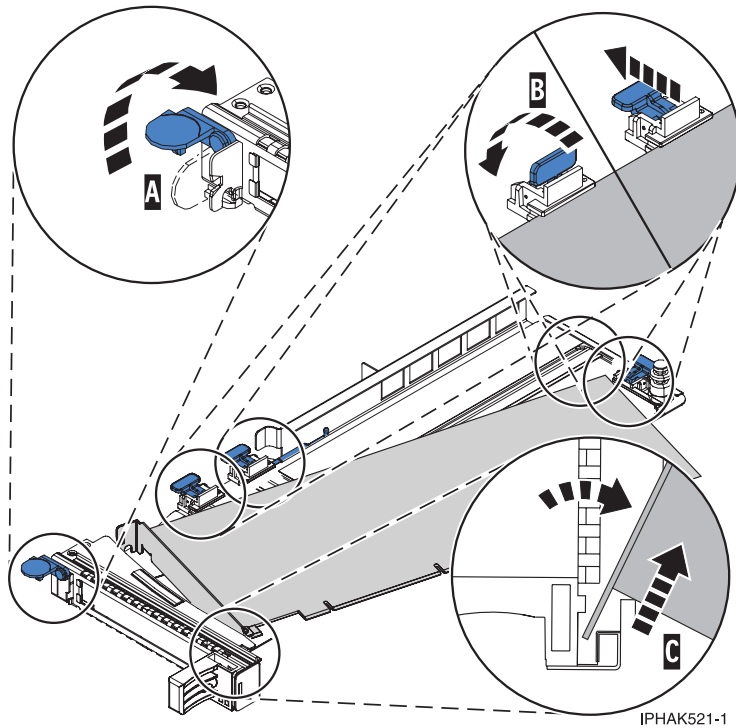

Figure 42. Adapter removed from the PCI adapter cassette
- a. Unlock the adapter retainers by rotating the retainer clip (A) into the horizontal position. See Figure 42 on page 49.